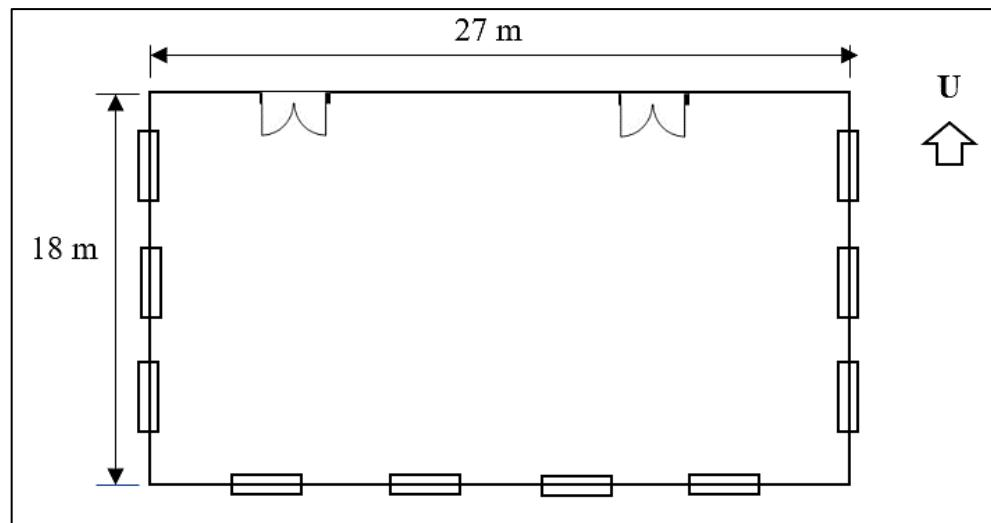

Figure B1(b) / Rajah B1(b)
- CLO1 (b) Figure B1(b) shows the plan of the laboratory room 27 m x 18 m x 4 m height where air conditioning is to be installed. By using the data below, calculate the total heat gain through walls.